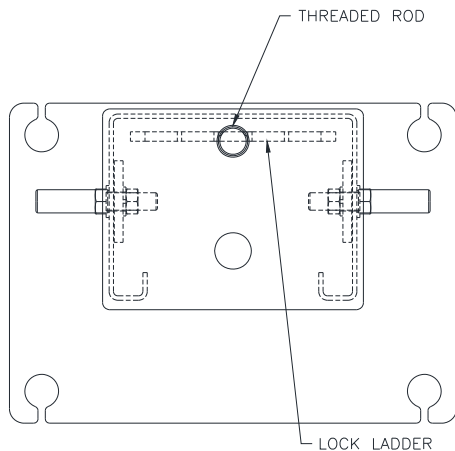

Fig 13 – Locking Ladder Orientation
- 20) Reassembly the lock ladder and top cap to column. Note: the lock ladder is offset from the center of the threaded rod and orientate per **Fig 13**.